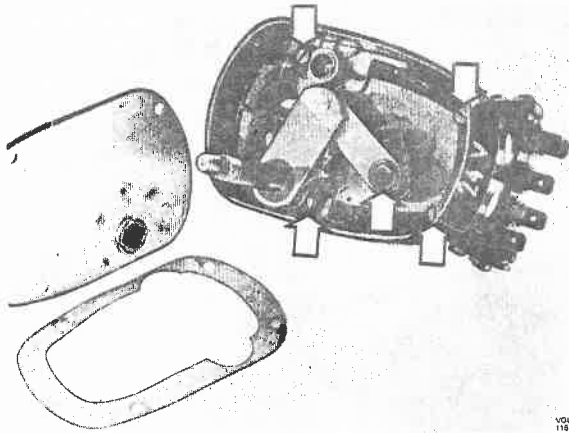

Fig. 36-15. Output shaft with tooth segment
3. Remove the end and gasket from the output shaft. Remove the output shaft and toothsegment. Remove the four screws securing the lower housing half, Fig. 36-15.